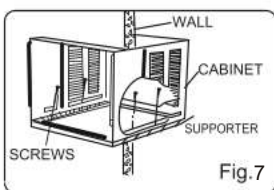

Fig. 7
- When need to drain off water, install the drain plug on the Chassis board. Then fix the cabinet on the supporter (provide for yourself or contact the dealer)(see Fig.7).